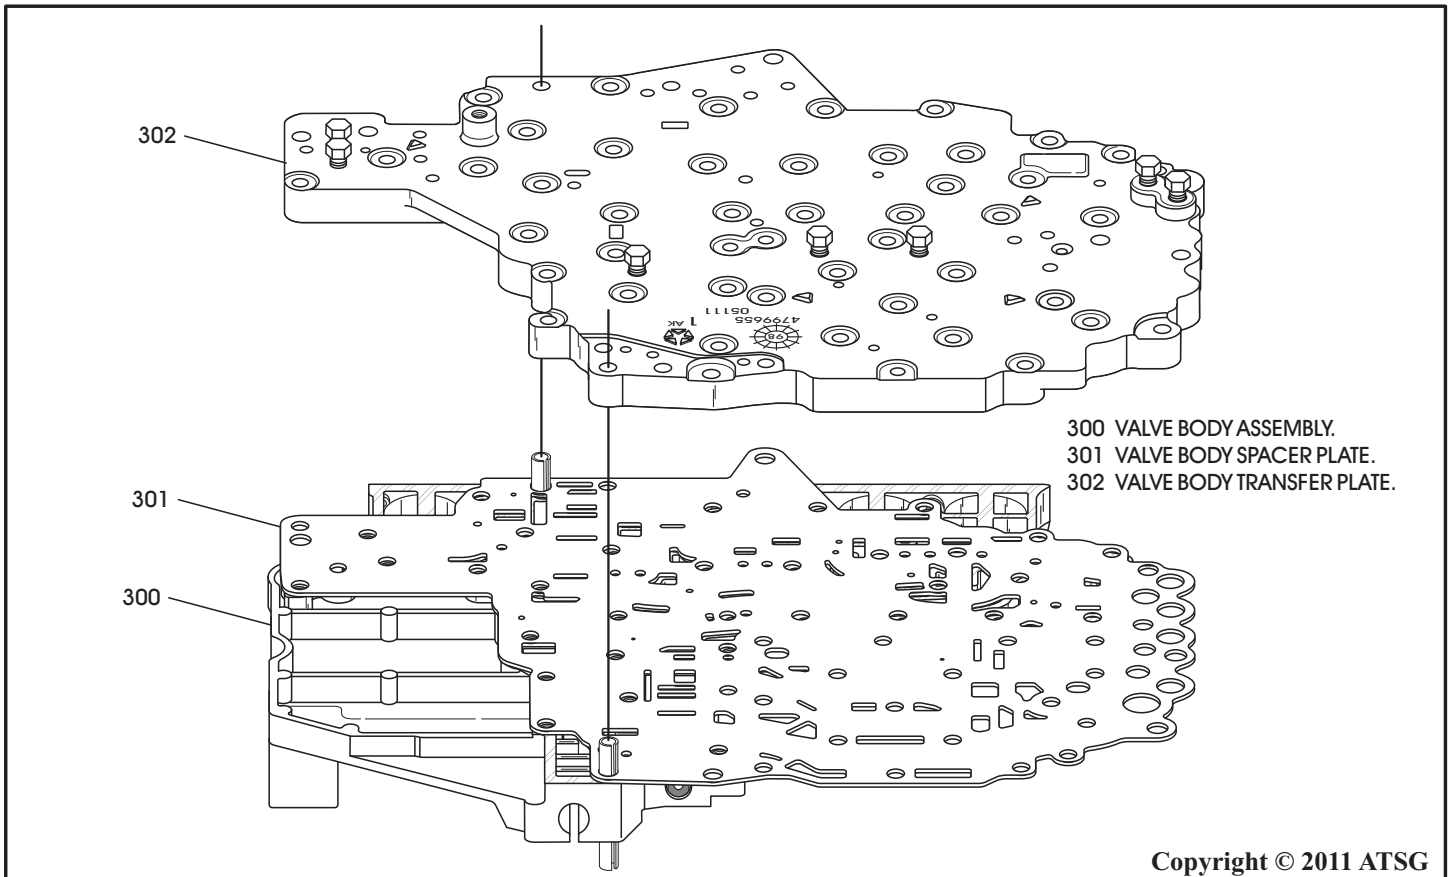

Figure 126
12. Install the transfer plate over locating dowels and onto the valve body as shown in Figure 126.